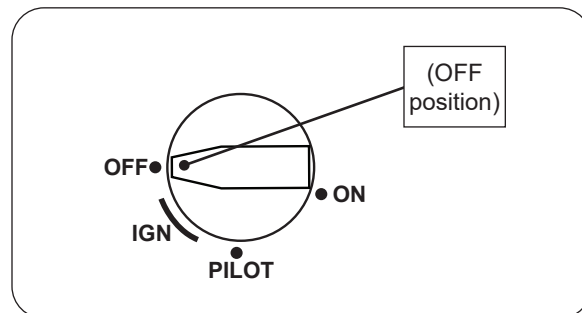

Fig. 30-2 Pilot shut down
2. Locate the valve on the side of the unit. Push in the ignition knob slightly and turn clockwise to OFF (see Fig. 30-2).
Push in the ignition knob slightly and turn clockwise to **OFF**. Do not force. See Fig. 30-2.